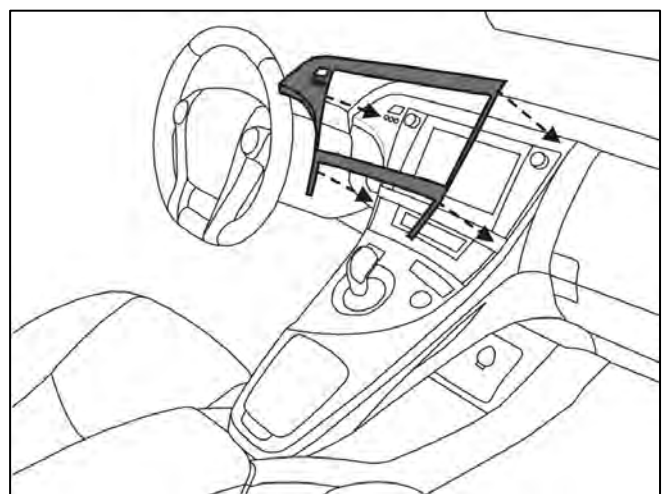

Fig. 4-1
-  (1) Align part uniformly to edge of factory component. (Fig. 4-1)